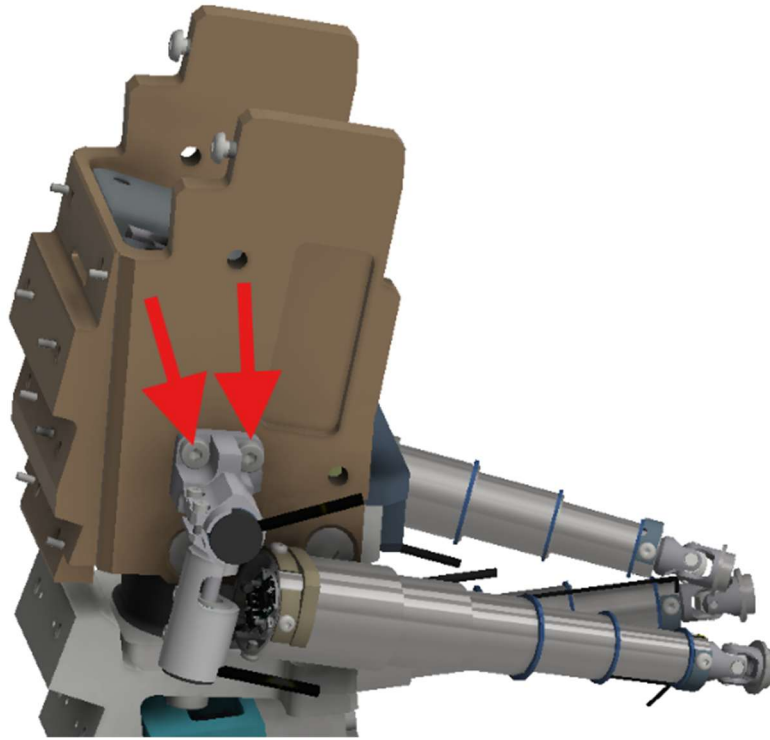

Figure 5-22. Remove the two Upper IR-TRACCs from the Spine Assembly (474-3200-A)
- 5.2.17 Remove the two Upper IR-TRACCs (474-3550-A and 474-3560-A) from the Spine Assembly (474-3200-A) by removing two M4 X 0.7 X 12 LG. SHCS per assembly (Figure 5-22).